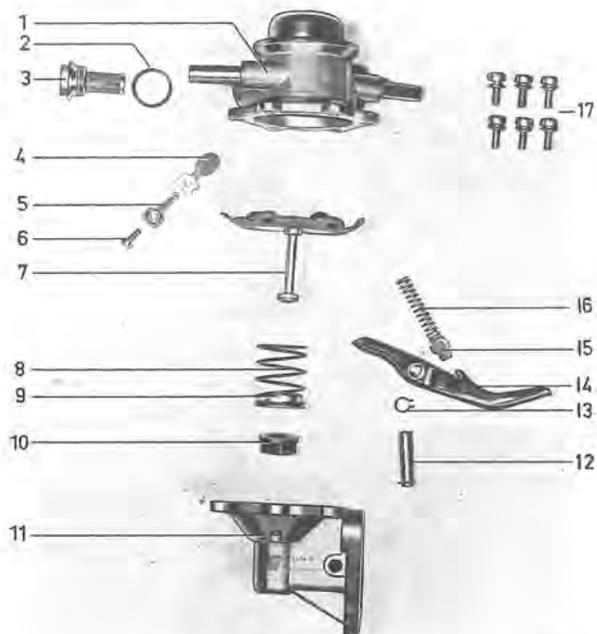

Fig. 2-89. Fuel pump, dismantled
1. Screw out the plug (3, Fig. 2-89) with strainer.
2. Fit the spring (8) and guide (9), see Fig. 2-89. Lever on the rubber seal (10) with the flange facing inwards towards the guide.
4. Press down the diaphragm, move in the lever (14) make sure that it locates correctly in relation to the diaphragm rod. Fit the pin (12), circlip (13), spring retainer (15) and spring (16).